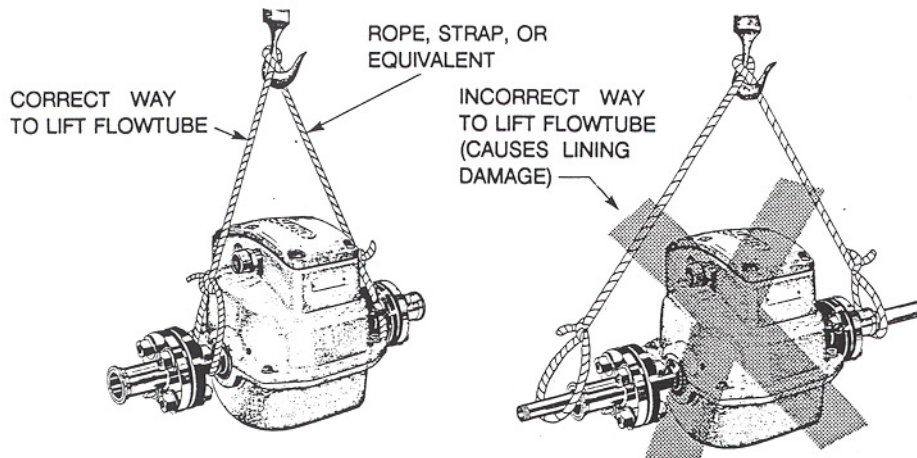
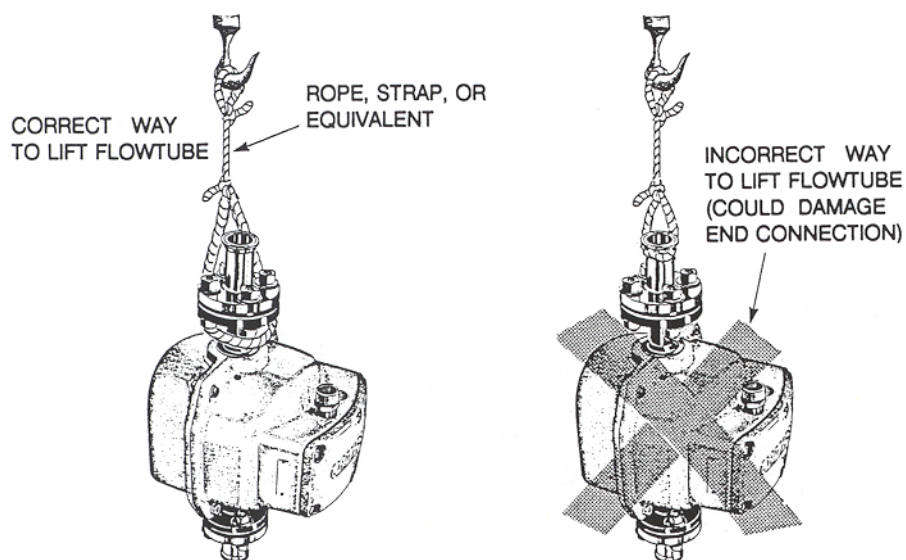

Figure 4. Lifting Sanitary Flowtube for Horizontal Mounting
Figure 5. Lifting Sanitary Flowtube for Vertical Mounting
2. Do not use the housing to support or lift the flowtube. Figures 4 and 5 show correct and incorrect methods for lifting the flowtubes. Note that in Figure 4 (horizontal lifting), the suggested approach is to place lifting rope (or equivalent) between the flange and flowtube body. For vertical lifting, shown in Figure 5, the lifting rope(s) should also be between the flange and the flowtube body. Adjust the rope(s) so that the flowtube is lifted as “vertically” as possible. Do NOT use the sanitary end extension section of the flowtube for either horizontal or vertical lifting.